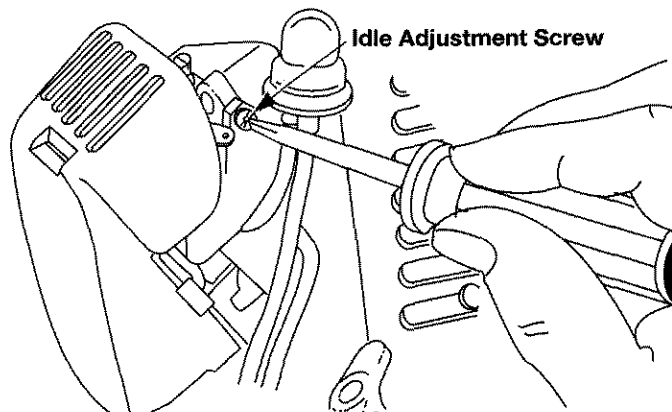

Fig. 30
The idle speed of the engine is adjustable through the Air filter/muffler cover (Fig 30).
2. Release the throttle trigger and let the engine idle. If the engine stops, insert a small phillips or flat blade screwdriver into the hole in the air filter/muffler cover (Fig. 30). Turn the idle speed screw in, clockwise, 1/8 of a turn at a time (as needed) until the engine idles smoothly.